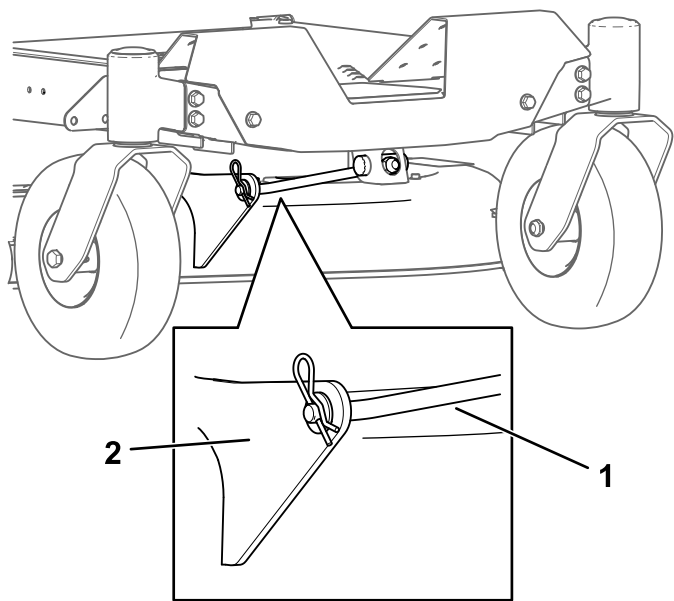

Figure 70
4. Remove the hairpin cotter from the front support rod, and remove the rod from the deck bracket (Figure 70).
8. Attach the front support rod to the mower deck with the clevis pin and hairpin cotter (Figure 70).